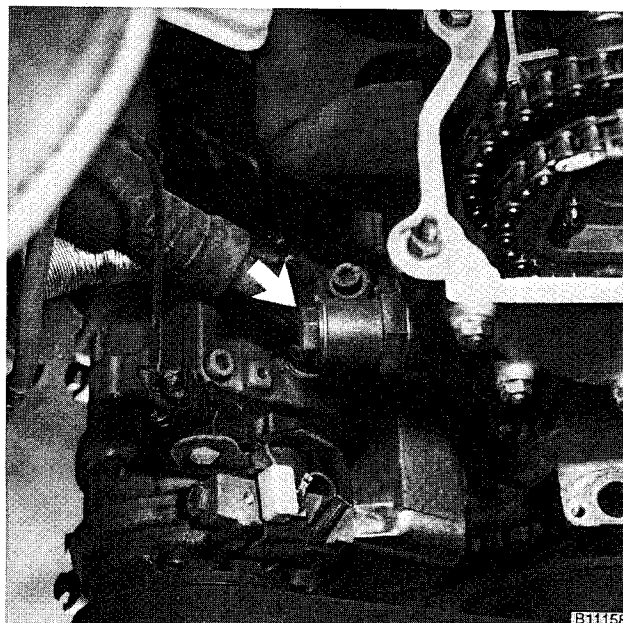

Fig. 40. Primary timing chain tensioner (arrow). Remove tensioner slowly to relieve spring tension beneath end plug.
2. Remove primary timing chain tensioner from side of cylinder head. See Fig. 40.